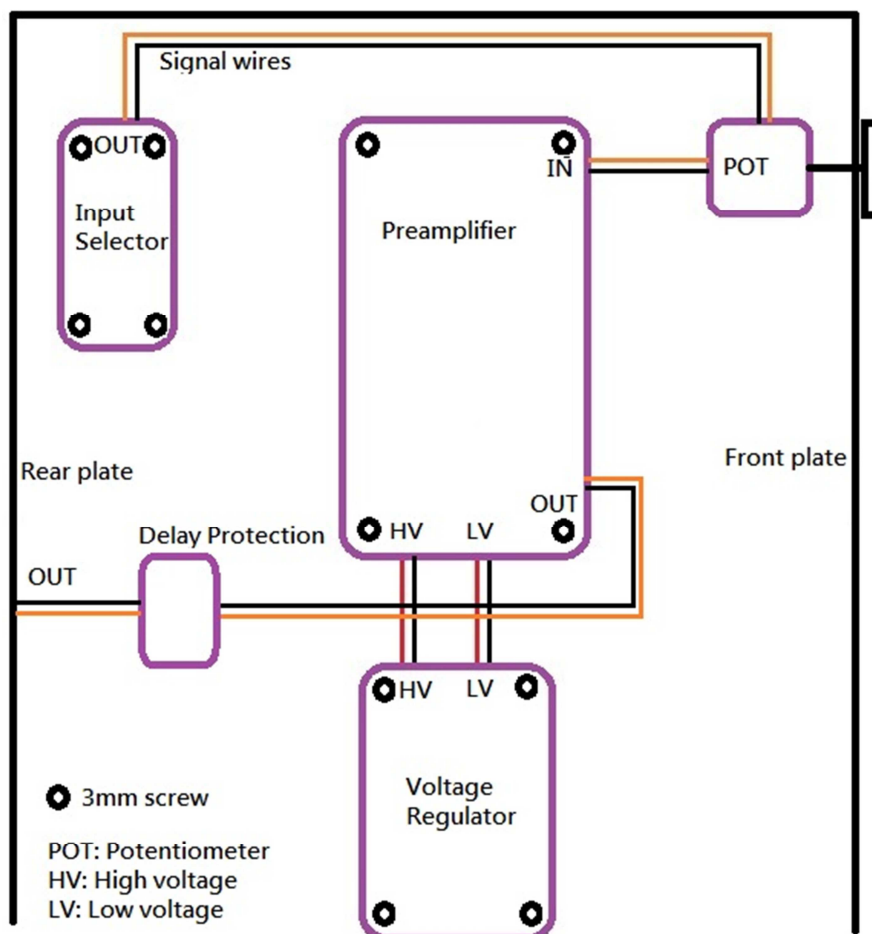

Figure 11: Connection diagram to preamplifier board
- D. Mount (3mm screw and nut) and connect the input selector, potentiometer (POT), delay protection and voltage regulator to the preamplifier as shown in Figure 11.